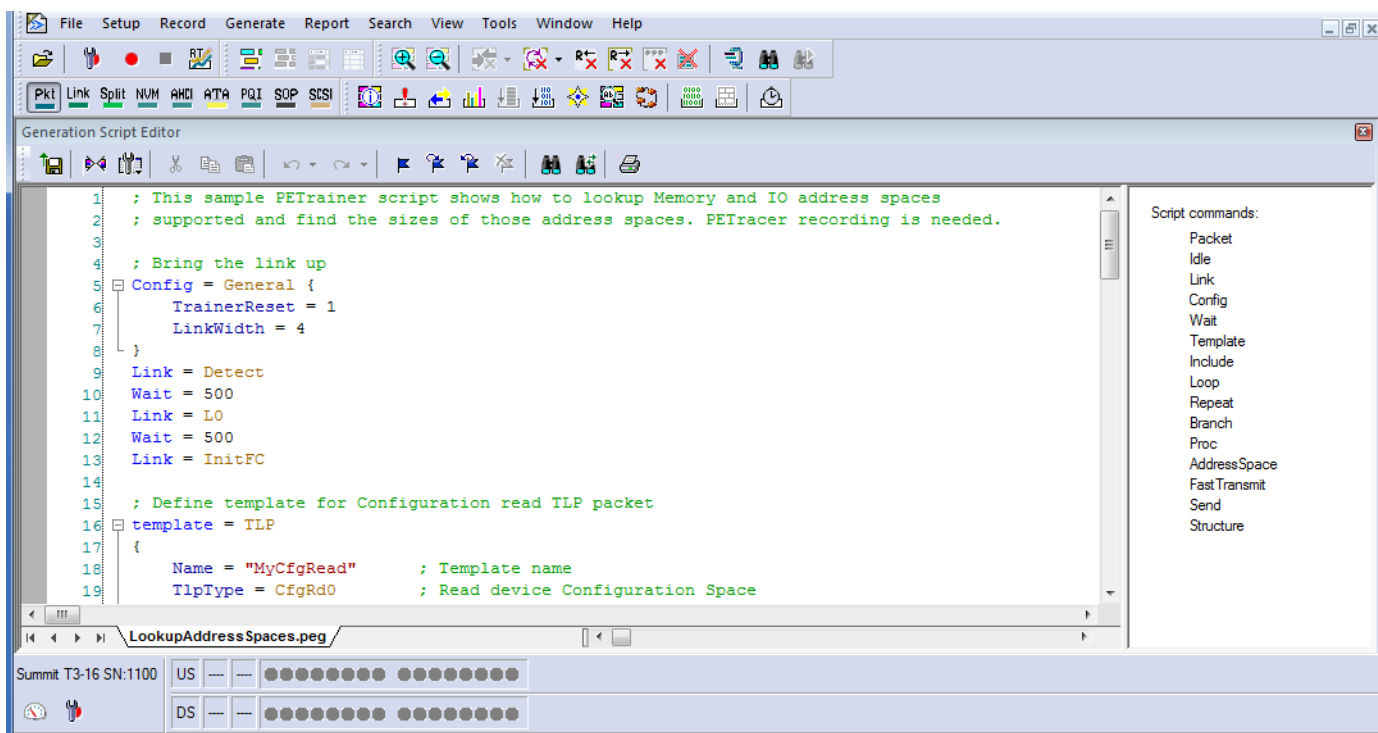

Figure 4.25: Empty Traffic Generation File.
2. An empty traffic generation file displays. You can also view the Script Editor (see Figure 4.25 on page 68).